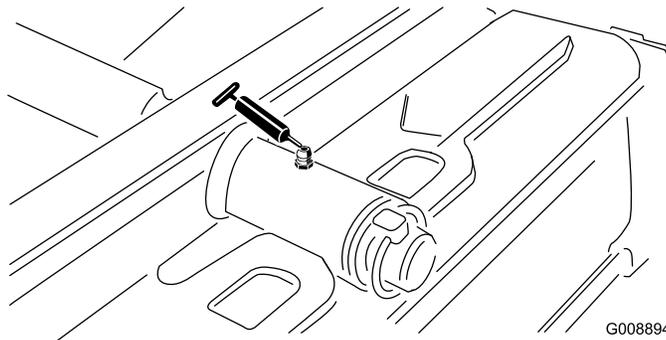

Figure 33
- Rear cutting unit pivot (Figure 33)